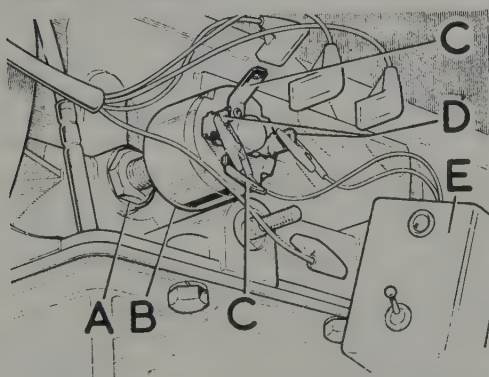

Fig. 6.42. Adjusting early type starter inhibitor switch
- 7 Connect a 12-volt test lamp and battery circuit across the two reverse light terminals "C" (Fig. 6.42). Gradually screw in the switch until the light goes out. Make a pencil mark on the